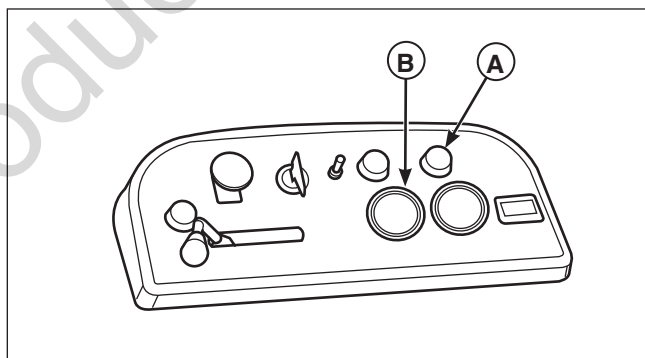

Figure 50. Deck Shut Down Module
- Immediately check your dash panel to see if the oil pressure indicator lamp (A, Figure 50) is lit or the water temperature gauge (B) is reading a high temperature.